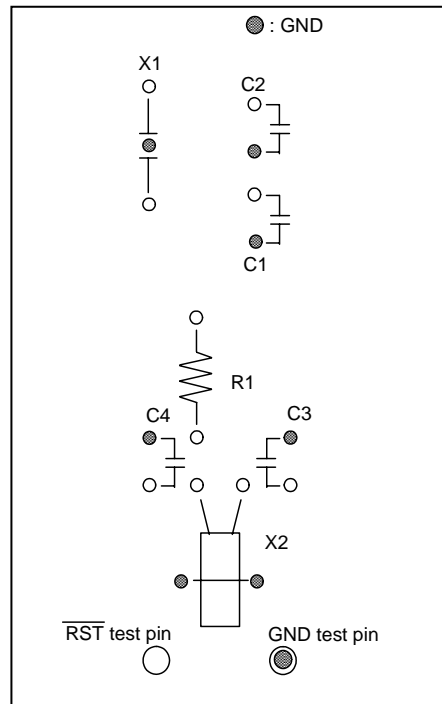

Figure 2 Parts layout of oscillator circuits
- (1) To use the internal oscillator circuit of the MCU
- Because the converter board exists between the emulator MCU and the user system, the oscillator on the user system may not be able to oscillate. In this case, mount an oscillator circuit on an oscillator circuit pattern (see Figures 2 and 3) of the M38C29T-64LCA. And, to confirm its oscillation, check output waveforms of pins XOUT and XCOU using an oscilloscope.
- (2) To use an oscillator module IC